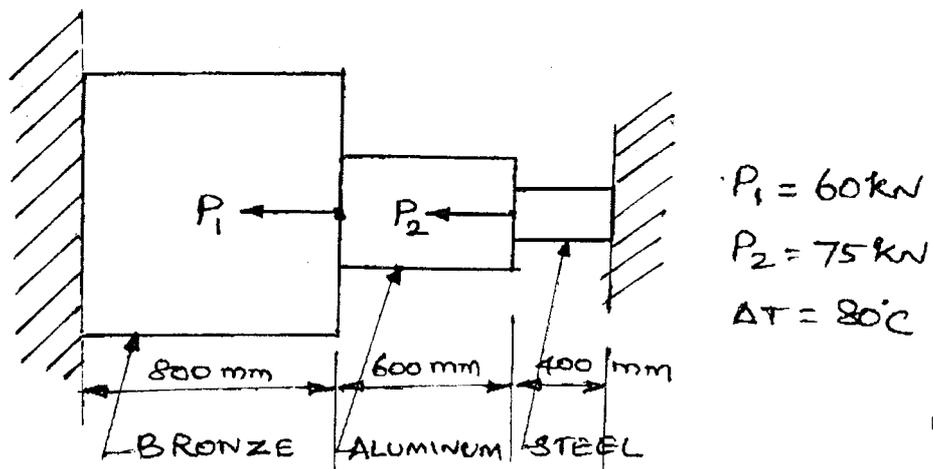

Fig.1
11. (a) The structure shown in fig.1 is subjected to an increase in temperature of 80° C. Determine the displacements, stresses, and support reactions. Assume the following data